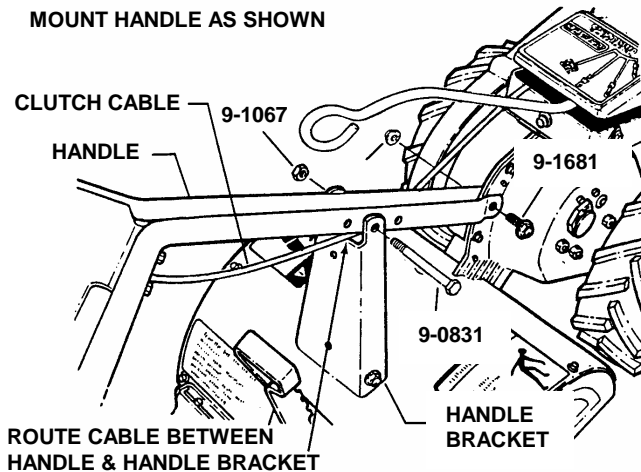

FIGURE 1
STEP 2: Wheel and Tine Control Bail is attached to the handle. Install handle bar onto rear of main case using Part Number 9-1681, Hex Flange Lock Bolt and Part Number 9-1070, Hex Flange Lock Nut being careful not to kink cable. See Figure 1. Route clutch cable between handle bar and handle bracket. See Figure 1. Secure handle bar to handle bracket. Insert Part Number 9-0831, Hex Cap Screw into middle hole of handle bar and secure with Part Number 9-1067, Hex Lock Nut. See Figure 1. If handle bar needs more adjustment then go to Step 2. If position of handle bar is satisfactory tighten all nuts and bolts securely.